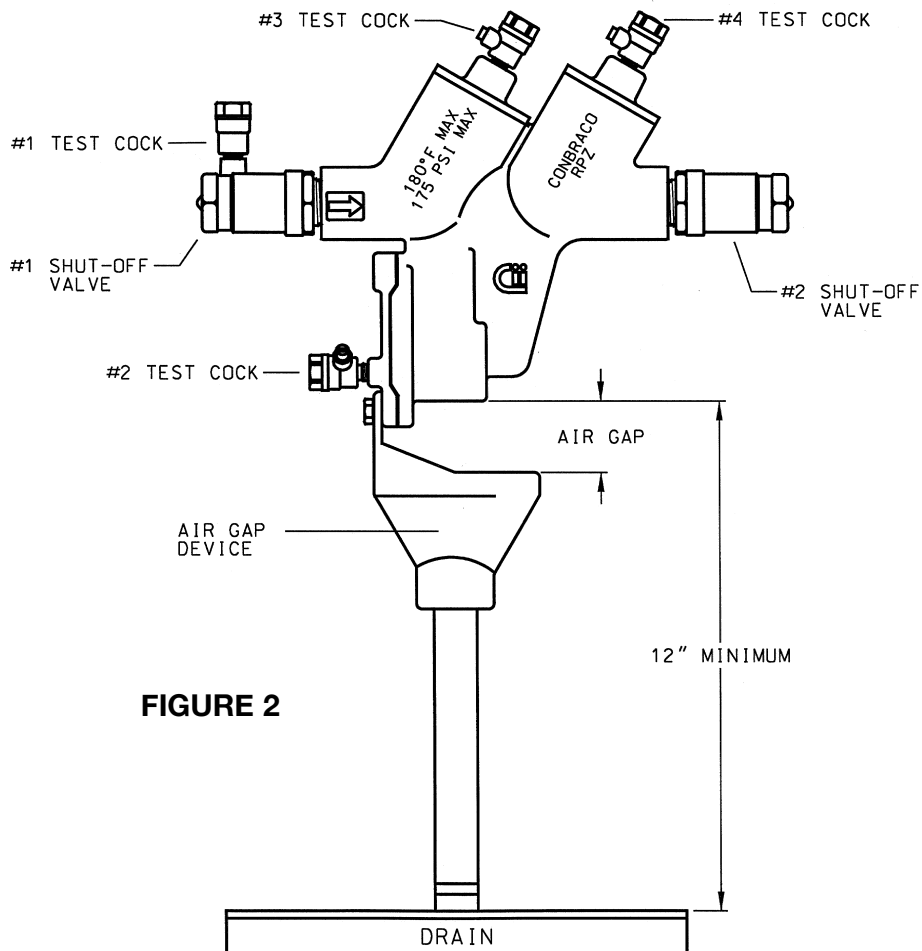

FIGURE 2
- (b) The location selected should have adequate drainage for relief valve discharge. Drainage may be piped away, providing an approved air gap device is used (see Fig. 2). The device should never be placed where it may become submerged in standing water.